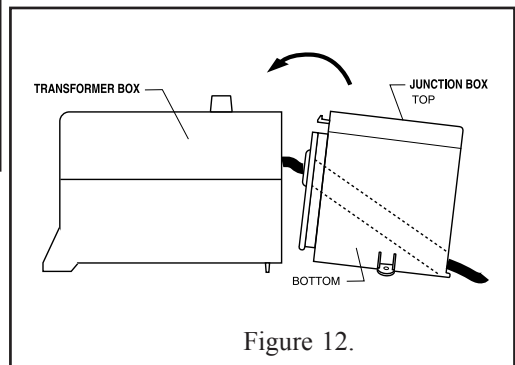

Figure 12.
11. Place the junction box cover on the junction box bottom so that the junction box can more easily snap into the transformer box; see Figure 12. Snap the pieces together, then remove junction box cover.